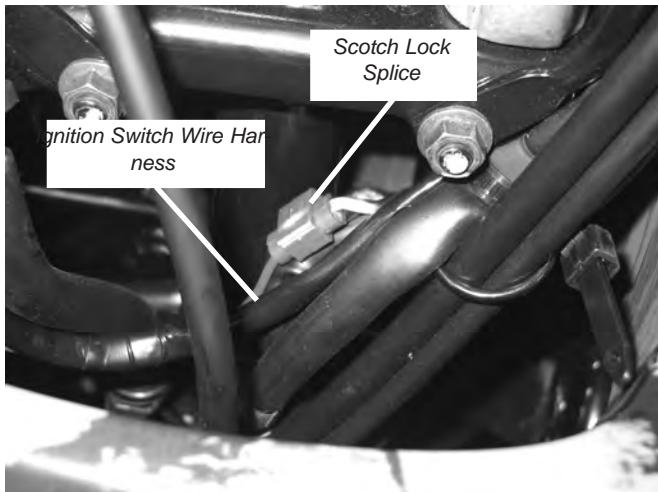

Figure 30 Connecting Switch - Red Wire
- d. Locate the ignition switch wire harness in front of the steering column, figure 30. Cut back the harness protective cover and splice the red switch wire, using the scotch lock supplied in the mounting kit, into the pink wire located in the ignition switch wire harness. Before making the splice, make sure that the pink wire only has power when the key switch is on. Trim the red switch wire excess approximately 20cm (8 in). Retape with electrical tape.